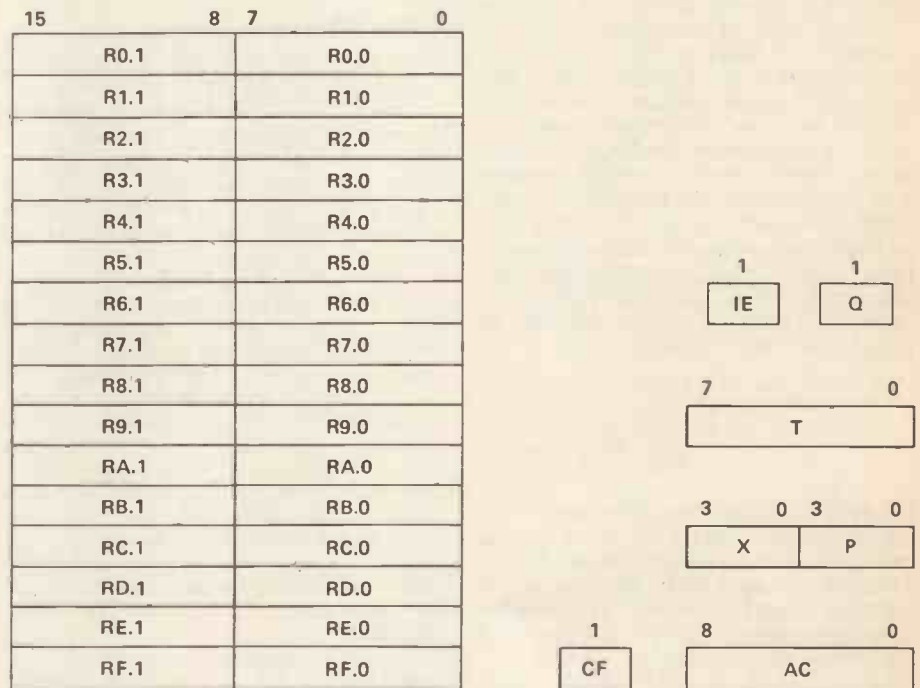

Figure 3. A programming model of the 1802. This is not the 'architecture' of the MPU but a model of how the processor 'appears' to the programmer.
The model of the 1802 MPU shown in Figure 3, reveals everything that the user or programmer needs to know about the internal architecture of the device, ie the registers that store data within the MPU. There are 16 registers of 16 bits, each able to store 2 bytes of data (the high byte is designated R.1 and the low byte R.0). More important than data storage, these registers will also hold 16 bit addresses, pointing to instructions and data stored in the external memory system. There are, additionally, two 4-bit registers X and P, which may contain any value from Hex 00 to Hex 0F, and they assign a special meaning to the register to which they point. The Program Counter, R(P) points to the address from which the MPU fetches data or instructions. After resetting the machine (by a low pulse applied to the CLEAR input) the program counter is always R.0 and has an initial value of 0000H. The index register, R(X), points to data in memory during some arithmetic, logic or transfer operations. All arithmetic and logic operations produce an eight bit result which is placed in the Accumulator (AC). This has an associated Carry Flag (CF), which is a one bit register indicating, for example, an overflow condition arising from certain arithmetic operations. The temporary register (T), the Interrupt Enable flag (IE) and the Q flag will be explained in later issues.